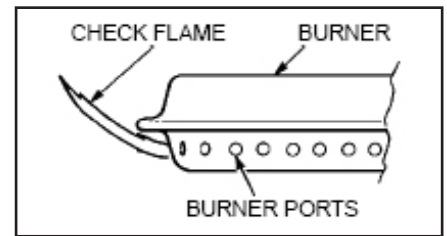

Fig. 7
9. All the ports on the burner should show a 1" (2.5cm) flame on "Hi" setting. (Fig. 7)